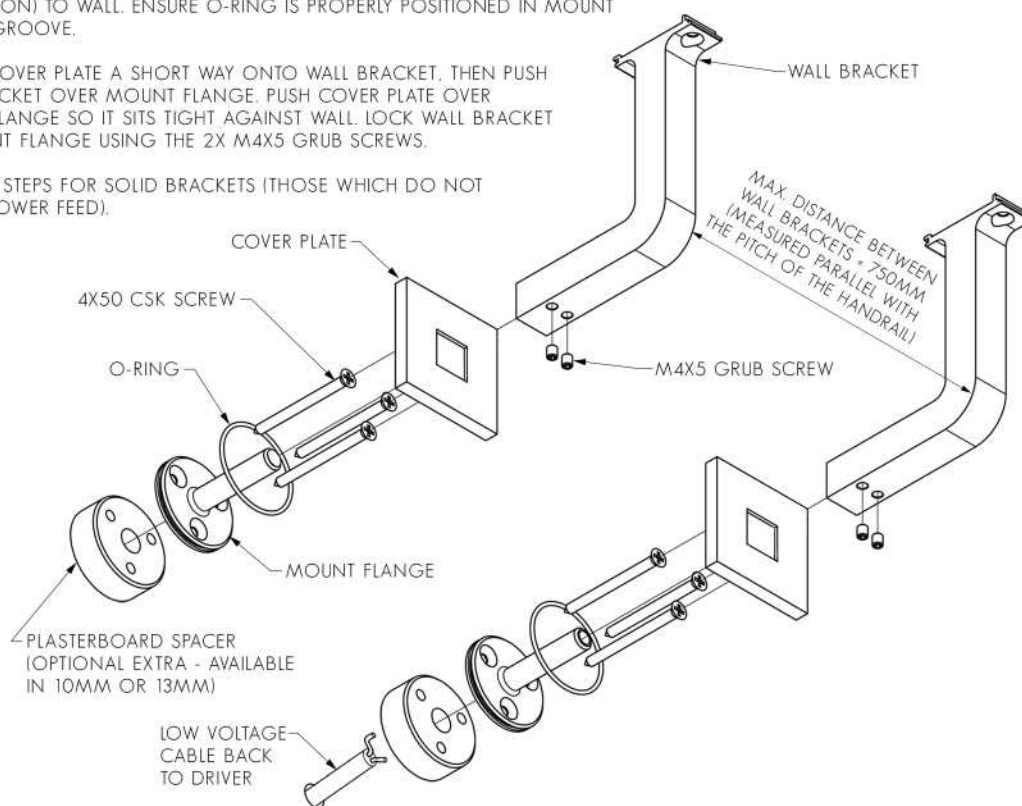

FIG. 2 - MOUNT FLANGE SHOULD BE ORIENTATED WITH TWO SCREWS AT TOP
3. FEED LOW VOLTAGE CABLE THROUGH MOUNT FLANGE AND SCREW-FIX MOUNT FLANGE (SEE FIG.2 FOR MOUNT FLANGE ORIENTATION) TO WALL. ENSURE O-RING IS PROPERLY POSITIONED IN MOUNT FLANGE GROOVE.